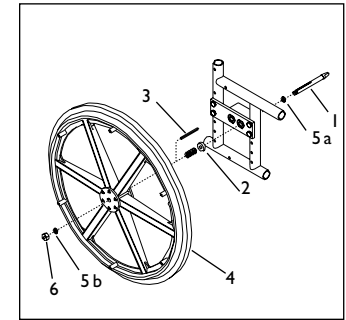

Fig. 8
2. Opposite Side Assembly (Fig. 8)
- a. Add one washer (5a) to axle (1).
- c. Add spacer (2) to axle.
- d. Add wheel (4) to axle.
- e. Insert key (3) into keyway on axle (1).
- f. Add washer (5b) and nut (6).